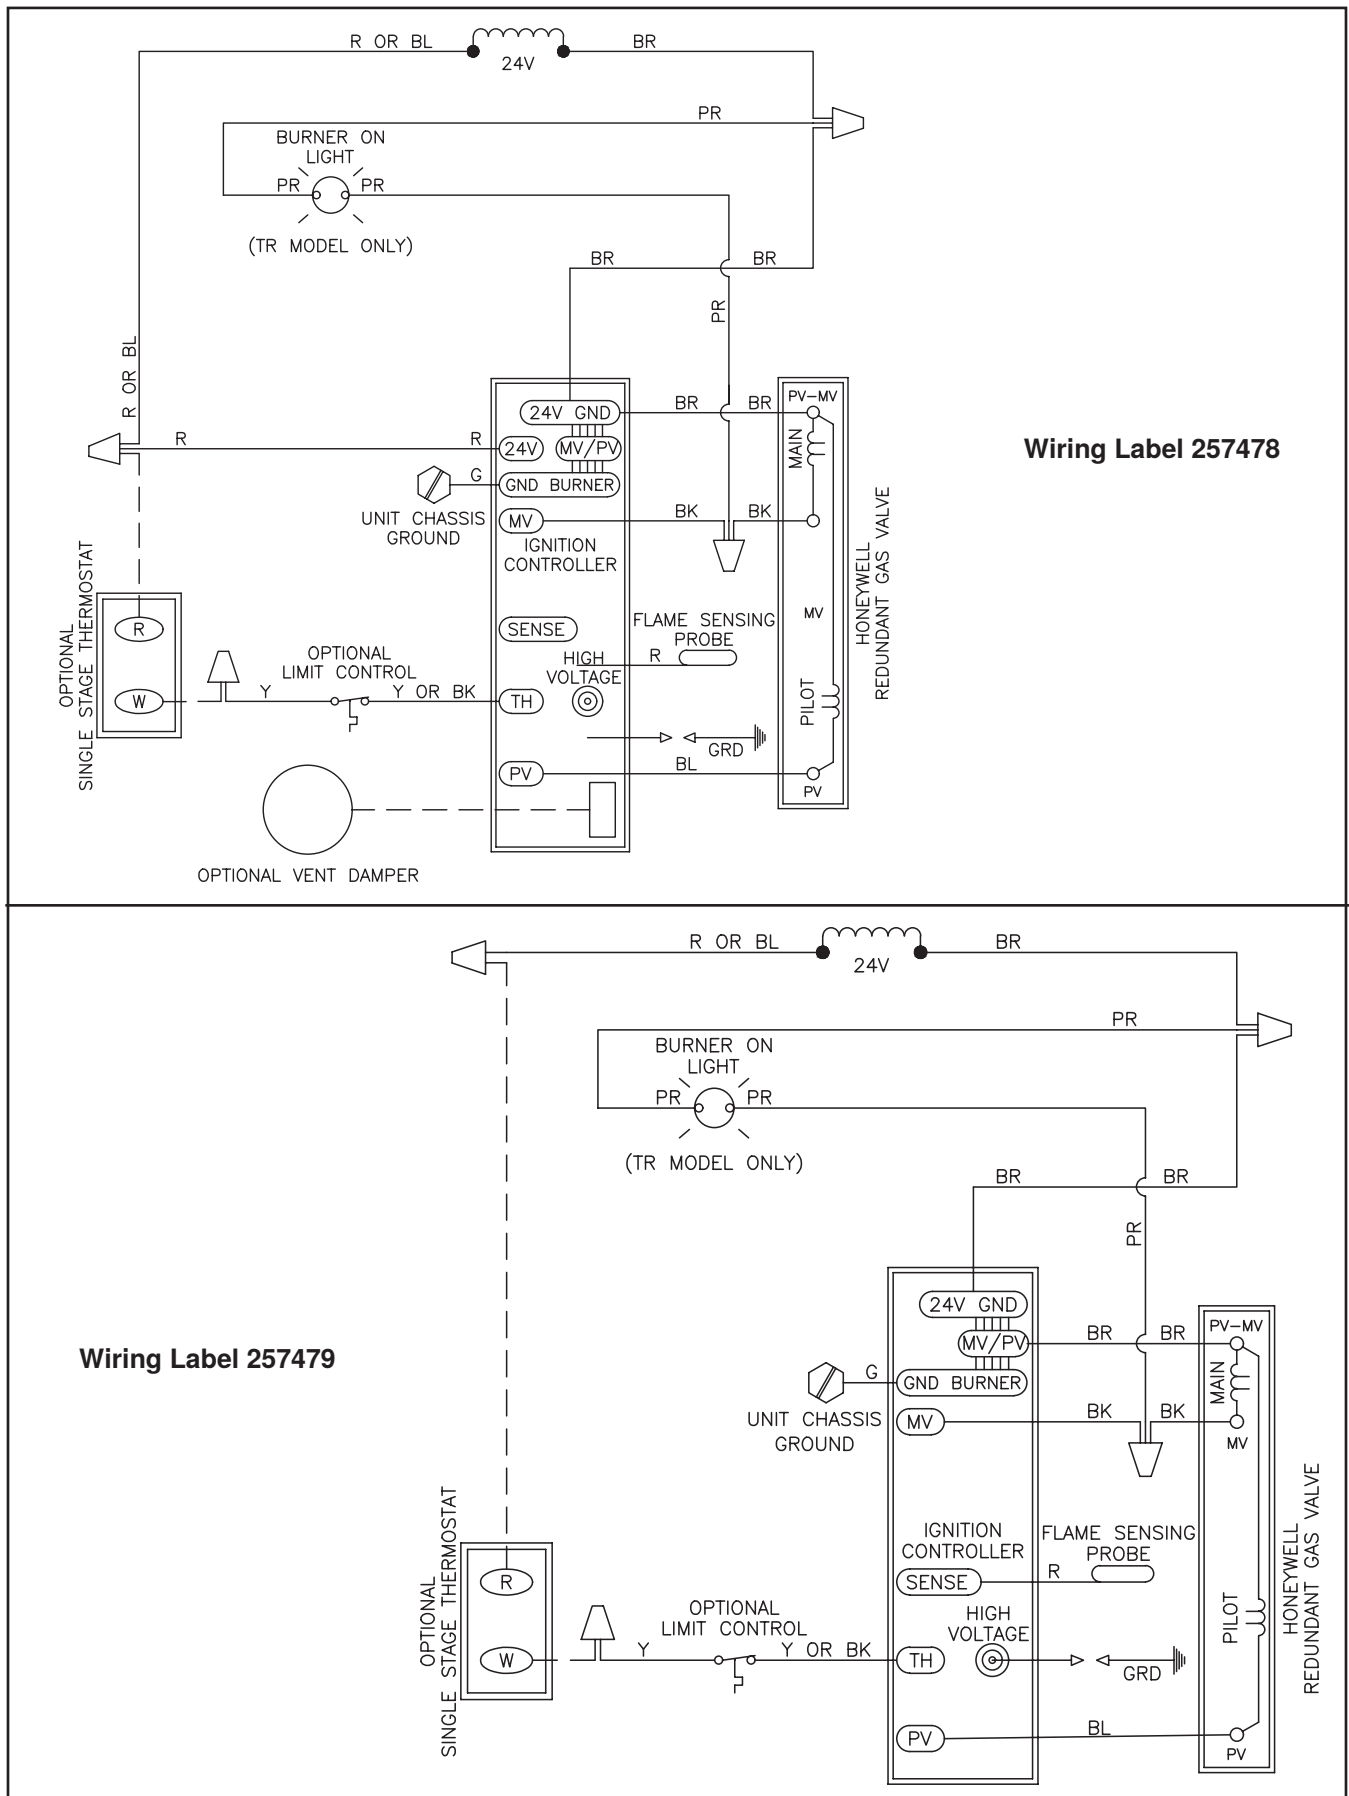

Figure 46. Wiring Diagram Labels
8. Reconnect wires to replacement ignition controller in accordance with applicable wiring label (see Figure 46) as follows:
9. Affix wiring label (see Figure 46):